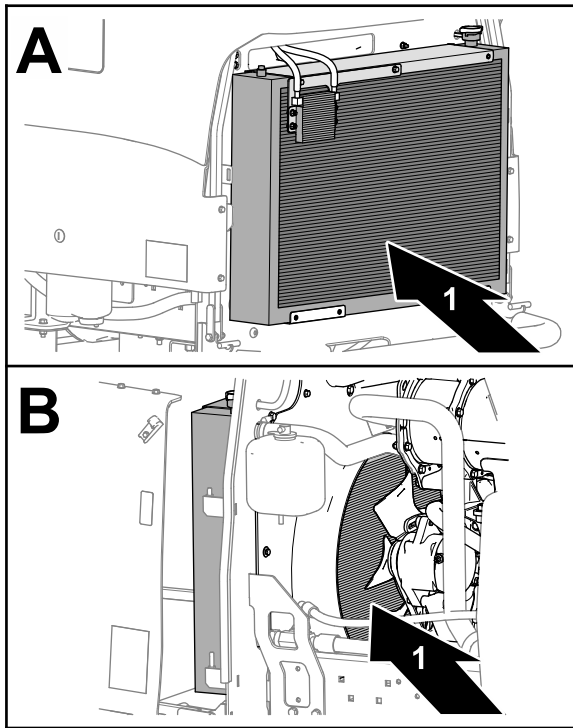

Figure 66
7. Thoroughly clean both sides of the radiator and oil cooler with compressed air (Figure 66).